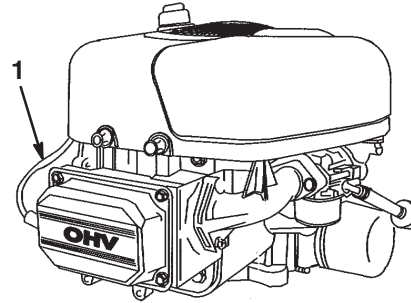

Figure 20
4. Disconnect the wire from the spark plug (Fig. 20).
3. Connect the wire to the spark plug (Fig. 20).